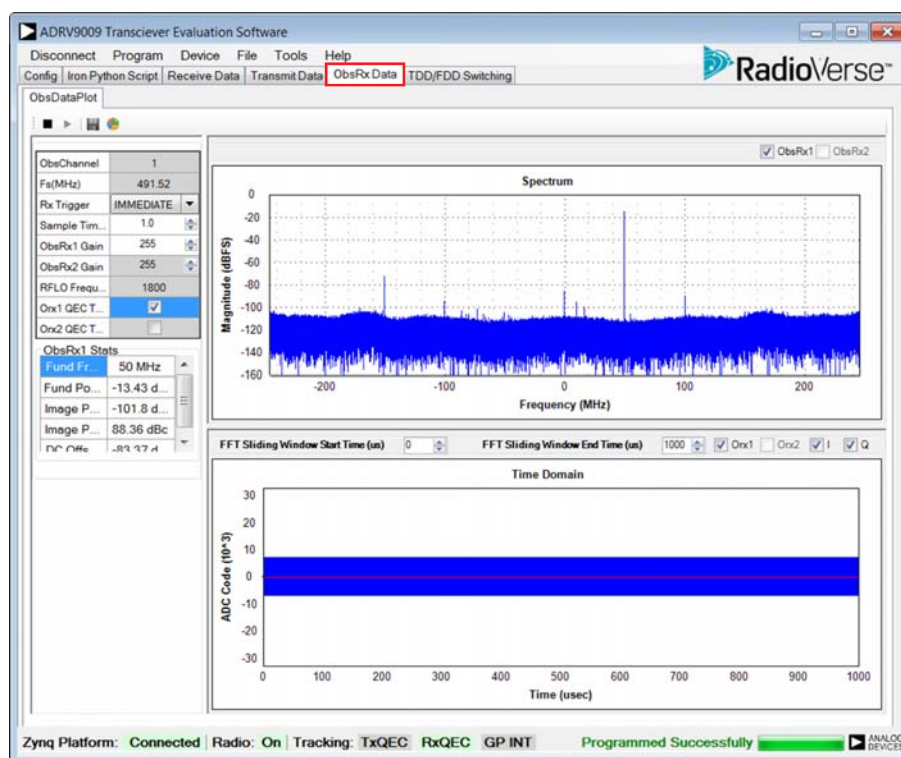

Figure 35. **ObsRx Data** Tab
Selecting the **ObsRx Data** tab opens a page as shown in Figure 35. The observation receiver gain can be set by entering the desired gain index. The gain index refers to the value in the programmable gain index table. Refer to the ADRV9008-1-W/ADRV9008-2-W/ADRV9009-W Hardware Reference Manual for gain index table specifics.
After pressing the play symbol in the **ObsRx Data** tab, the ADRV9008-2 or ADRV9009 moves to the receive state and graphs the output data. An example of a captured waveform is shown in Figure 35.
7. After the ADRV9009 evaluation system is programmed, move to the **ObsRx Data** tab shown in Figure 35. In this tab,